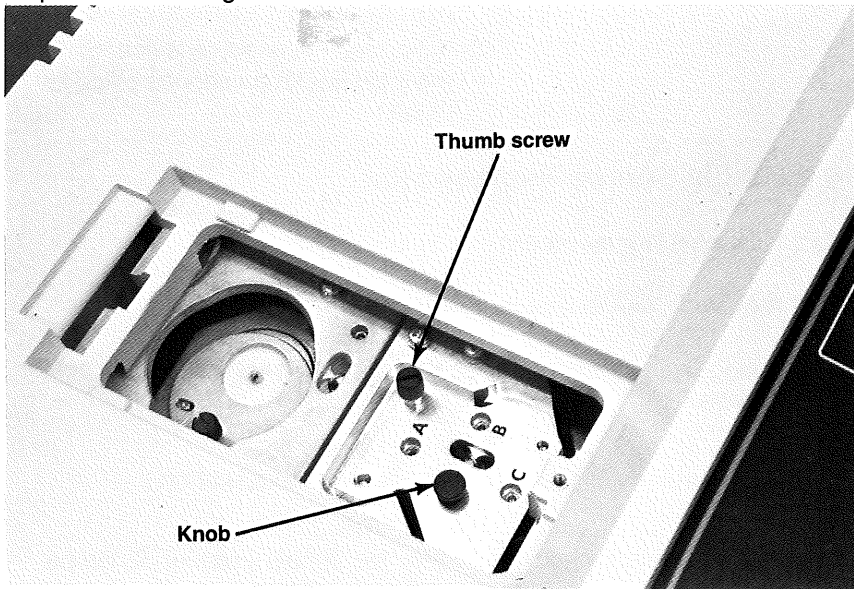

Figure 8-8.
3. Unscrew the thumb screw which holds the visible source mount in position. See Figure 8-8.